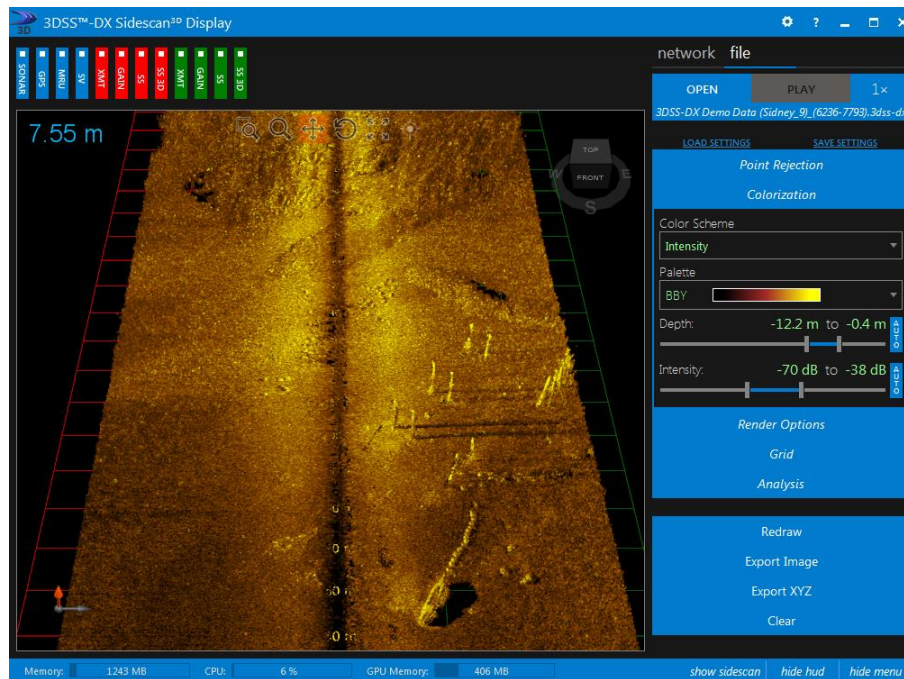

FIGURE 65. 3D SIDESCAN COLORIZATION SETTINGS, 3D IMAGERY EXAMPLE.
Specifies how the 3D data is to be colorized and allows selection of the color palette. Figure 65 shows the COLORIZATION settings expanded on the sidebar menu.
2. 3D Imagery as shown in Figure 65 : Data is colorized by backscatter intensity with the following variations: